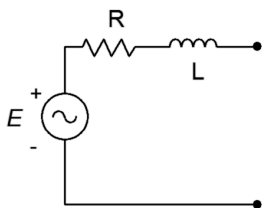

Figure 5.38
65. Design an equivalent current source for Figure 5.38 if $E = 1\angle 0^\circ$, $R = 600\ \Omega$ and $L = 2\text{ mH}$. The source frequency is 20 kHz.
66. Design an equivalent current source for Figure 5.38. $E = 2\angle 90^\circ$, $R = 10\text{ k}\Omega$ and $X_L = j900\ \Omega$.